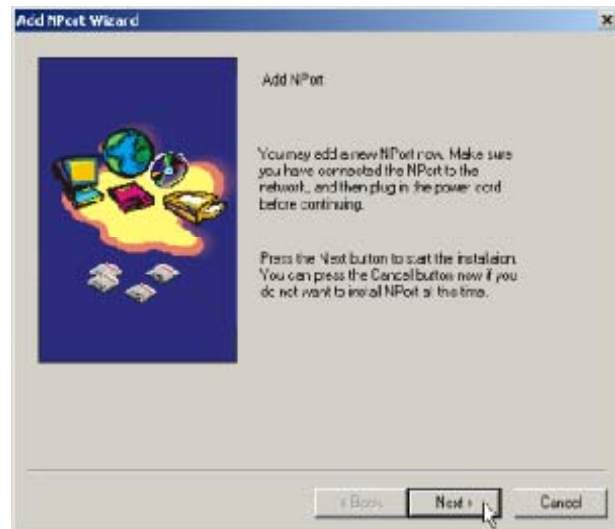

Figure 2-28
10. The **Add Port** window opens. **Figure 2-28**.